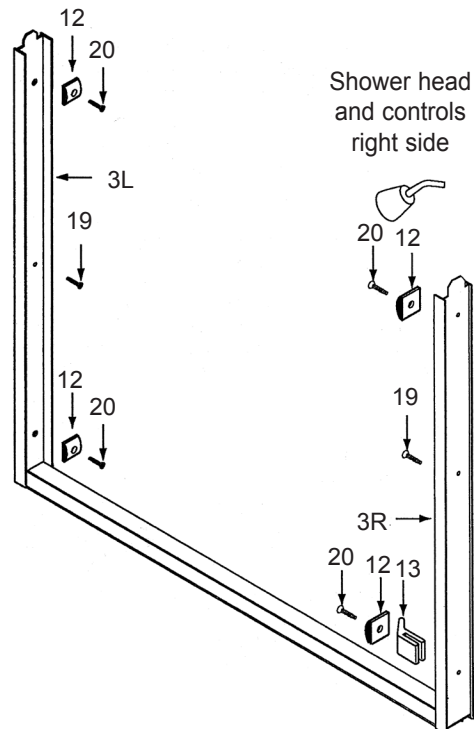

Figure 4A
- A. In order to install the Panel Locator (#13) you must first determine which wall the shower head is on. See Figures 4A and 4B.